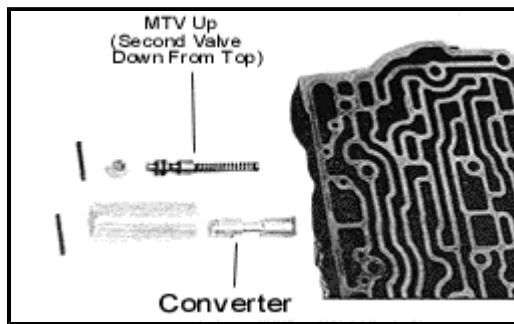

Figure 1
STEP 1 M.T.V. Up Valve: (See Figure 1) Remove the roll pin holding the M.T.V. Up Valve assembly. Remove aluminum plug, valve and spring. Discard spring. Reinstall the valve, aluminum plug and roll pin. The roll pin must fit flush with the casting.
STEP 2 Converter Clutch Valve: (See Figure 1) DIESEL APPLICATION: DO NOT MODIFY. Skip to Step 3.